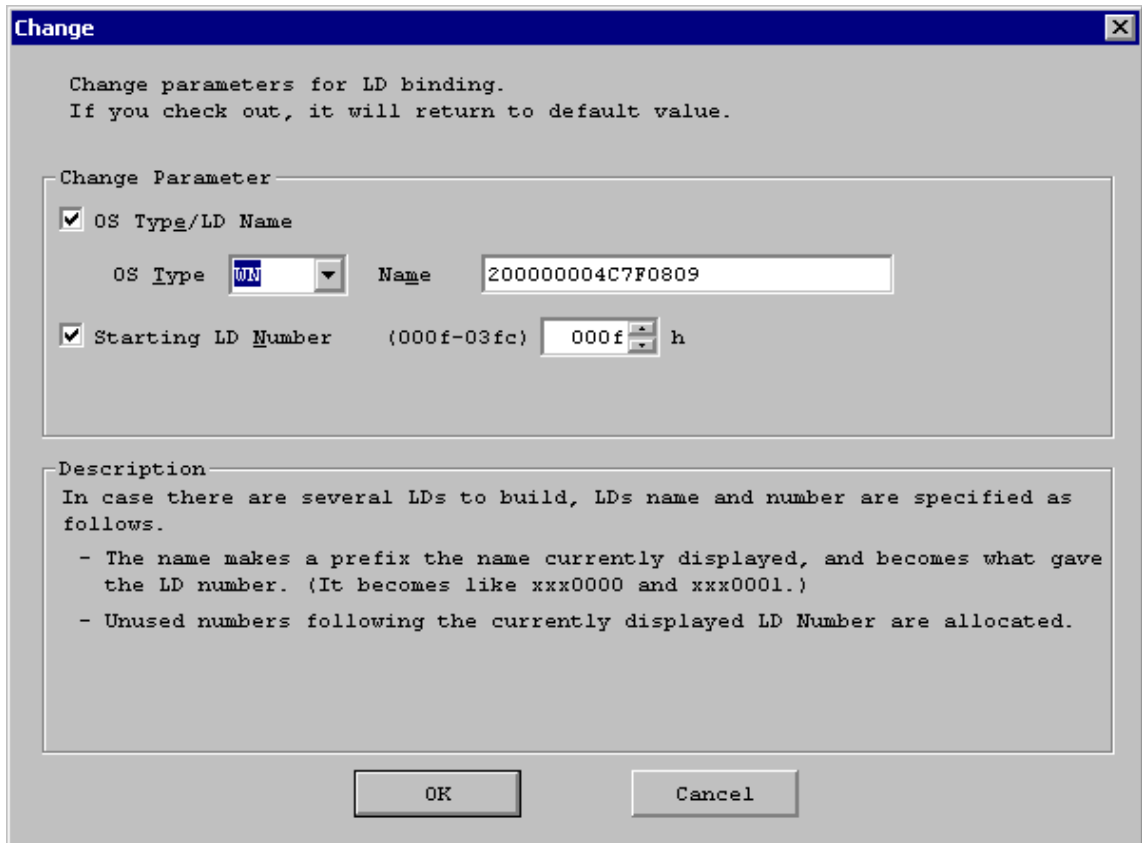

Figure 7-66 Change Parameter Screen
- [Change] button: Displays the screen which allows changing parameters. (Refer to Figure 7-66 “Change Parameter Screen”.)